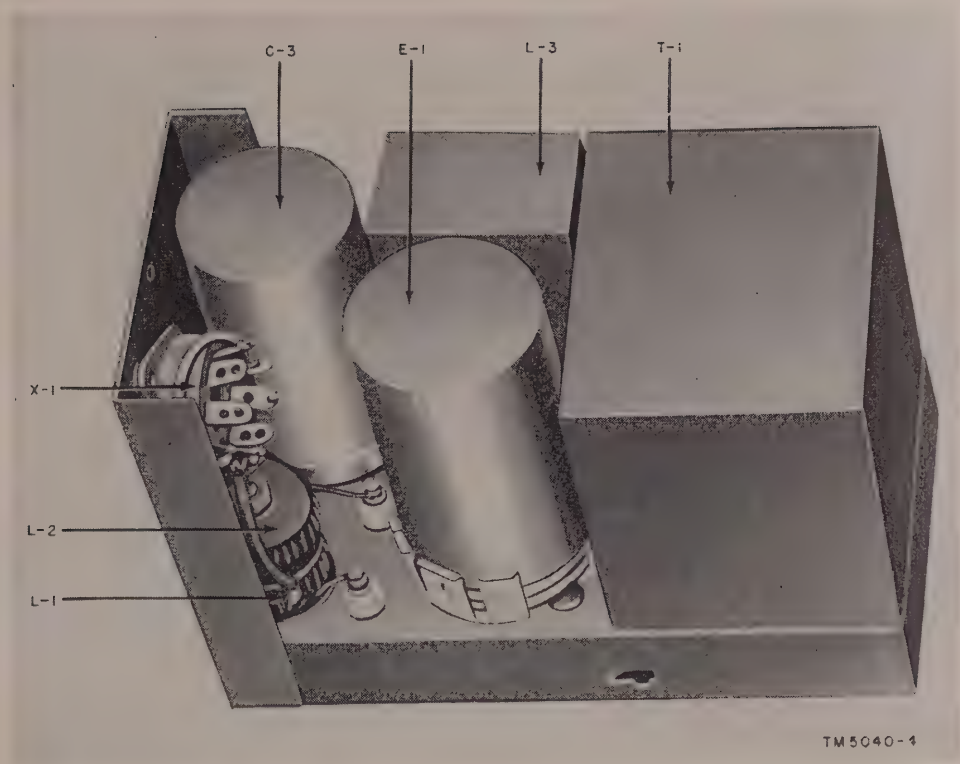

Figure 52. Power Supply PP-282/GRC, internal view.
d. PLUG-IN POWER SUPPLY. Although it can be replaced as a single unit, the plug-in power supply is not furnished as a running spare. However, a spare is provided for the vibrator within the power supply (fig. 52). Remove the receiver case and replace the vibrator as follows:
- (1) Loosen the clamp at the rear of the power supply compartment and swing it out of the way.
- (2) Grasp the handle at the rear of the power supply unit and pull straight out.
- (3) Remove the three green screws which fasten the top cover on the power supply chassis.
- (4) Using the handle on the cover, lift the cover off with a straight upward movement. If the cover is stuck, use
- (5) Pull the vibrator (fig. 52) out of its socket with a straight upward movement. Do not rock or jiggle the vibrator while attempting to remove it from its socket. If necessary, use a small screw driver to pry the vibrator out of its socket gently, but take care not to enlarge the ring clip which holds the vibrator near the base.